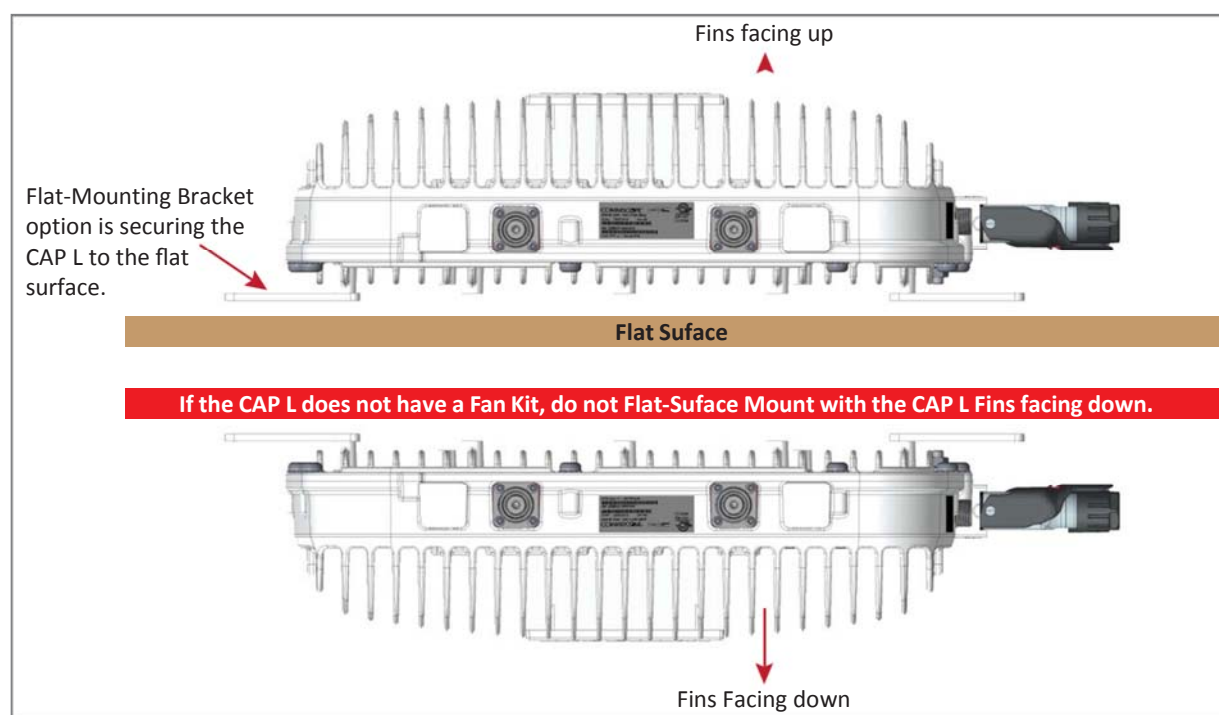

Figure 6. CAP L Orientation in Flat-Surface Mounting
-  **Always mount the CAP L with its mounting option facing down against the mounting surface, and the enclosure fins facing up; see Figure 6.**
-  **If you are mounting the CAP L above a ceiling, its antennas must protrude below the ceiling. That is, the CAP L will be above the ceiling, but any connected WiFi units or IP cameras will be mounted below the ceiling; see Figure 6.**